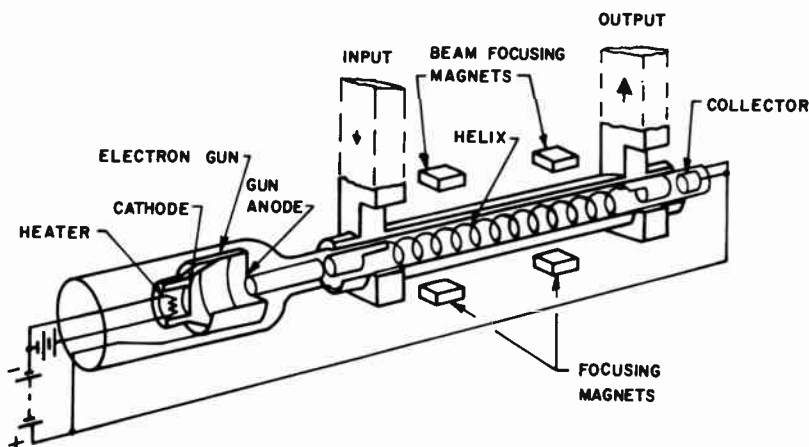

FIG. 19-4. A TYPICAL TRAVELING WAVE TUBE.
**THE TRAVELING-WAVE TUBE.** A traveling-wave tube is used primarily as a UHF amplifier. It can amplify signals above 10,000 MHz. It also has excellent bandwidth response; it can handle bandwidths that are 10% of the frequency being amplified. Fig. 19-4 illustrates a Traveling-Wave tube. It contains an electron gun similar to that of a cathode ray tube. The electron gun shoots a finely focused beam of electrons down the center of the tube towards the collector at the other end. The collector is about 2,000 volts positive with respect to the cathode. As the beam travels down the tube, it is kept in focus by means of electromagnetic coils or magnets that surround the tube.